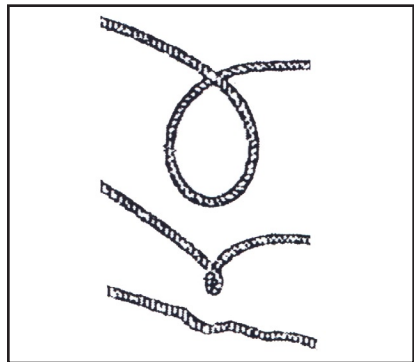

Figure 7. How a cable kink can form.
3. Check the cable before each use for signs of kinks or irregular bends in the cable. Kink damage can occur when a loop in the cable is tightened and the cable becomes 'pinched', as shown in **Figure 7**. This significantly weakens the cable strength, and the cable could snap under strain. **DO NOT** use a cable that has signs of kink damage. Doing so could cause serious personal injury.